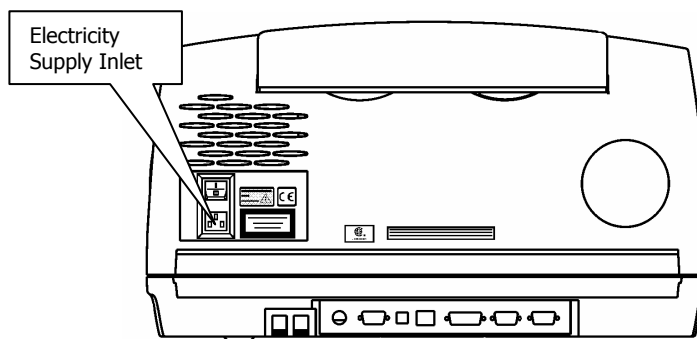

Figure 11 Electrical Supply Inlet
1. Fit the molded socket of the power cable into the electrical supply inlet (Figure 11) of the instrument.